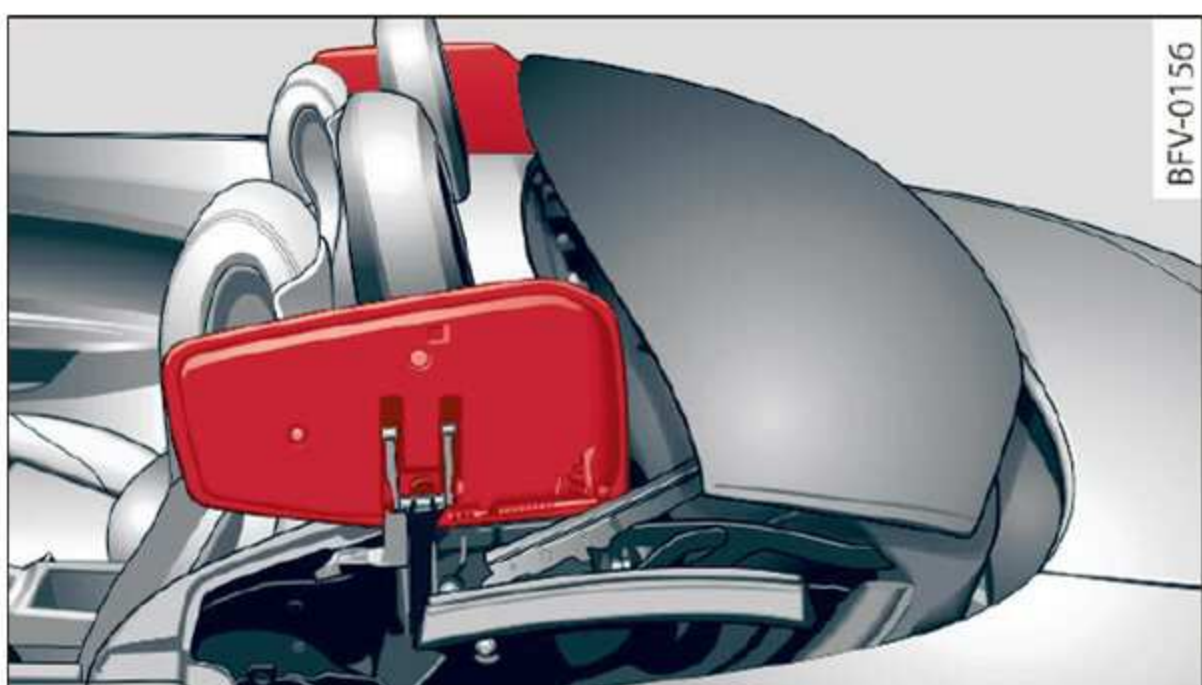

Fig. 31 Open covers
- ▶ Fold up the cover on the driver's and front passenger's side ⇒ *fig. 31*.